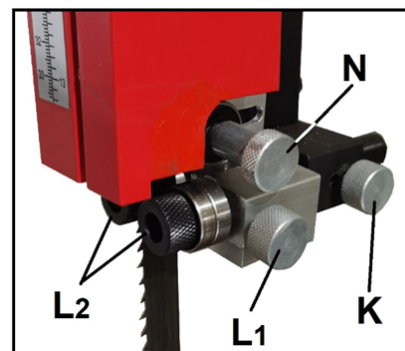

Figure 5-10: blade guide adjustment
Refer to Figures 5-10 and 5-11.
4. Loosen the lock knob (K, Figure 5-10).
6. Tighten lock knob (K, Figure 5-10).
7. If thrust bearing does not line up with blade, lateral adjustment of the entire guide bracket can be made using the lock knob (K) and the 2 set screws on opposite side of the upper guide mount.
Refer to Figure 5-10.
2. Loosen the lock knob (N, Figure 5-10), and slide thrust bearing until it almost touches back of blade. (This blade-to-bearing gap can be set in similar fashion as the side guides, with business card or dollar bill.)